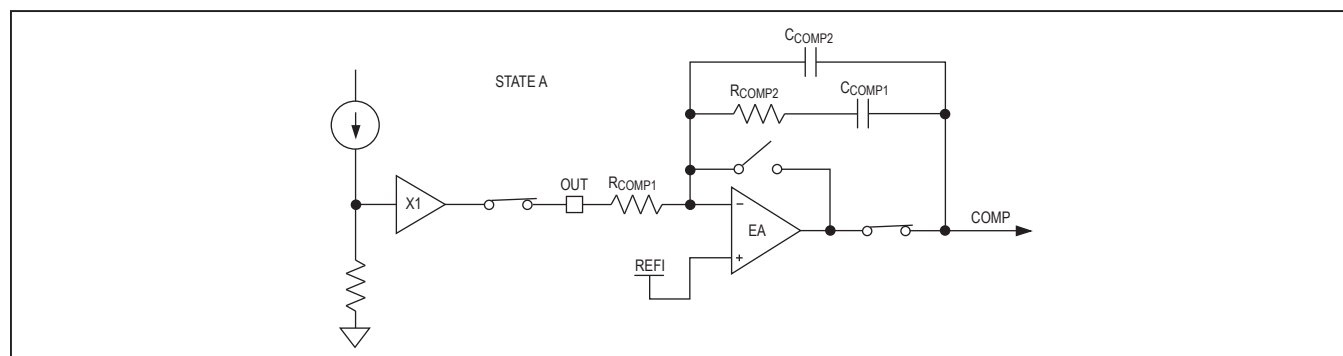
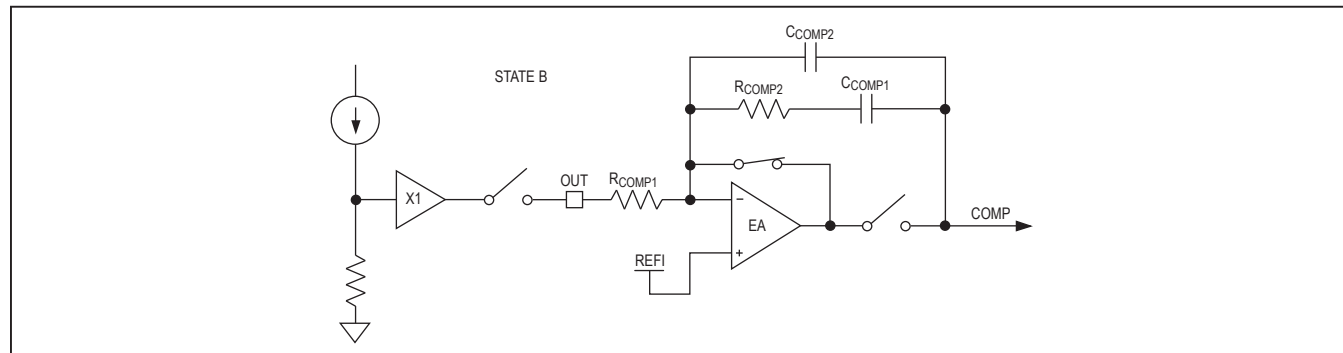
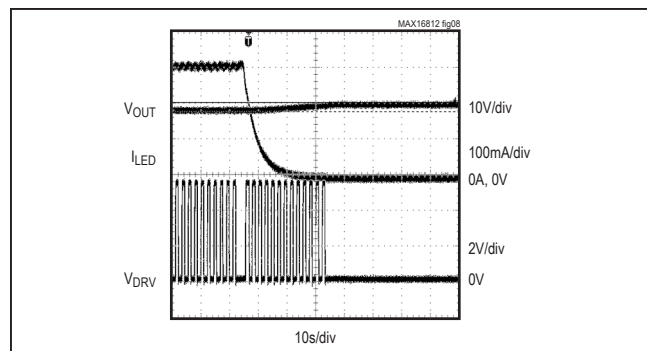

Figure 4. Internal Error Amplifier Connection (Dimming Signal High)
Figure 5. Internal Error Amplifier Connections (Dimming Signal Low)
Figure 8. LED Current, Output Voltage, and DRV Waveforms when DIM Signal Goes Low
The MAX16812 includes a built-in voltage-error amplifier, which can be used to close the feedback loop. The internal LED current-sense output signal is buffered internally and then connected to CS_OUT through an internal switch. CS_OUT is connected to the inverting input (FB) pin of the error amplifier through a resistor. See Figures 4 and 5. The reference voltage for the output current is connected to REF1, the noninverting input of the error amplifier. When the internal dimming signal
is low, COMP is disconnected from the output of the error amplifier and CS_OUT is simultaneously disconnected from the buffered LED current-sense output signal (Figure 5). When the internal dimming signal is high, the output of the op amp is connected to COMP and CS_OUT is connected to the buffered LED current-sense signal at the same time (Figure 4). This enables the compensation capacitor to hold the charge when the DIM signal has turned off the internal switching MOSFET gate drive. To maintain the charge on the compensation capacitors CCOMP1 and CCOMP2, the capacitors should be of the low-leakage ceramic type.
PWM dimming can also be achieved by connecting TGRM to a DC voltage less than V_{REF} and applying the PWM signal at DIM. The moment the internal dimming signal goes low, gate drive DRV to the internal switching MOSFET is turned off. The error amplifier goes to state B (see the *Internal Error Amplifier* section and Figures 4 and 5). The peak current in the inductor prior to disabling DRV is I_{LX} . Gate drive DGT to the external dimming MOSFET is held high. Then after a switchover period, gate voltage V_{DGT} on the external dimming MOSFET is linearly controlled to reduce the LED current to 0. The fall time of the LED current is controlled by an internal timing circuit to 5μs for the MAX16812. During this period, the gate (DRV) to the internal switching MOSFET is enabled. After the fall time, the gate drive to the external dimming MOSFET is turned off and the gate drive to the internal switching MOSFET is still held high after the switchover period. The peak current in the inductor is controlled at I_{LX} . Then after a time period of 20μs, the gate drive is disabled. The scope shots in Figures 8–11 show the dimming waveforms.
When the DIM signal goes high, the LED current is gradually increased to the programmed value. The rise time of the LED current is controlled to $5\mu\text{s}$ for the MAX16812 by controlling the voltage on DGT. After the rise time, an internal sensing circuit monitors the voltage across the drain to the source of the external dimming MOSFET. The LED current is now controlled at the programmed value by a linear current regulating circuit. Once the voltage across the drain to source of the dimming MOSFET drops below 0.5V, the reference for the linear current regulating circuit is increased to 1.1 times the programmed value. The gate drive (DRV) to the internal switching MOSFET is enabled and the error amplifier is returned to state A (see the *Internal Error Amplifier* section and Figures 4 and 5).